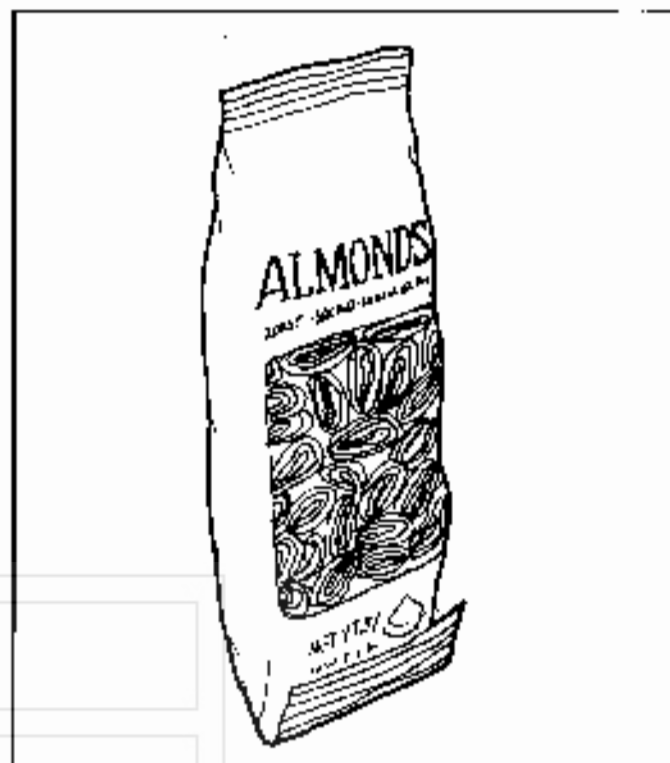

Figure 8. FOLD BAGGED ITEMS BOTTOM EDGE FORWARD AND UP.
3. BAGGED ITEMS in the 8-size section shelves if not loaded properly could be a problem. The sealed edge of the bag may get under the spiral wire causing the product to hang up after it has been vended. It is recommended that the inner edge of these types of product be folded forward and up (see Figure 8) next to the product before inserting it to the spiral space.